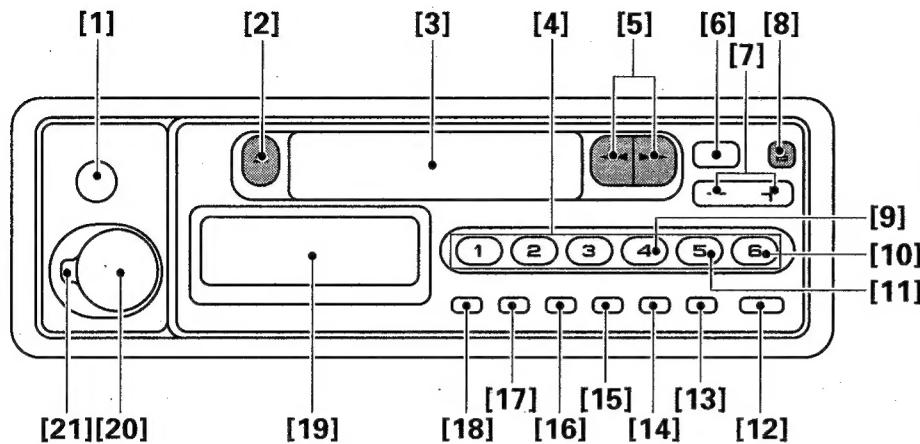
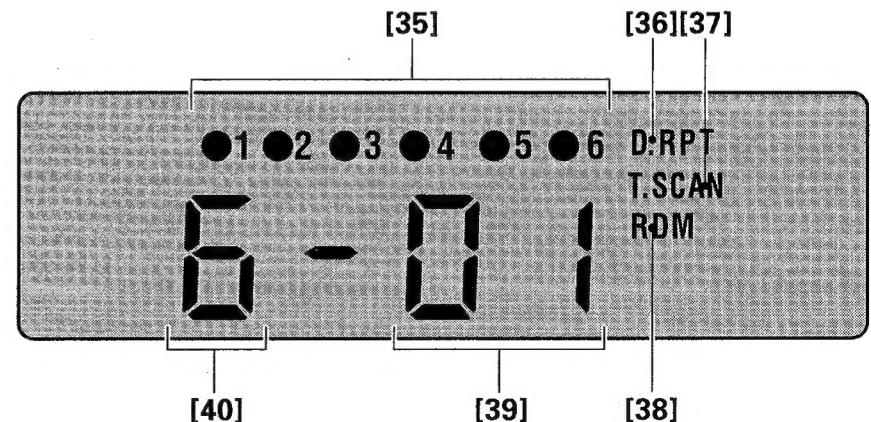

Fig. 1. Abb. 1.
Fig. 4. Abb. 4.
| Fig. 1 ~ Fig. 4 | 3 |
| Abb. 1 ~ Abb. 4 | 3 |
- Fig.1 shows KEH-M4500 and KEH-M4000. The GEH-M2000 does not include buttons [2], [5] and the door [3].
Parts Identification (Fig. 1)
- Do not install the front panel while holding down buttons [2], [5] and [8] in Fig.1. Doing so may destroy the buttons and the main unit.